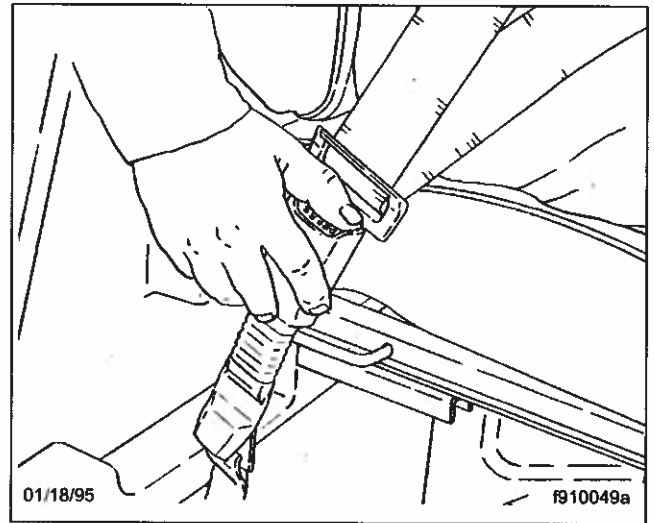

Fig. 5.9, Releasing the Three-Point Seat Belt
4. To unbuckle the three-point seat belt, push the button on the buckle as shown in **Fig. 5.9**. If the Komfort latch was used, release it by giving the shoulder belt a quick tug. If you lean forward against the shoulder belt, the Komfort latch will automatically release and will need to be reset.